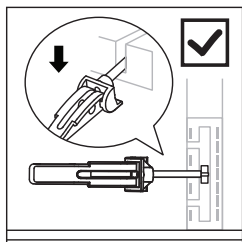
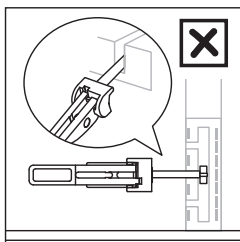

Fig. 1
Fig. 2
• Open tailgate and release rear latches. Fold up the cover once; secure rear latch on both sides into the groove with the clamp jaw portion facing down as shown in Fig.1. Any other incorrect methods shown in Fig.2 - 4 will cause damage to the vinyl and will void warranty.